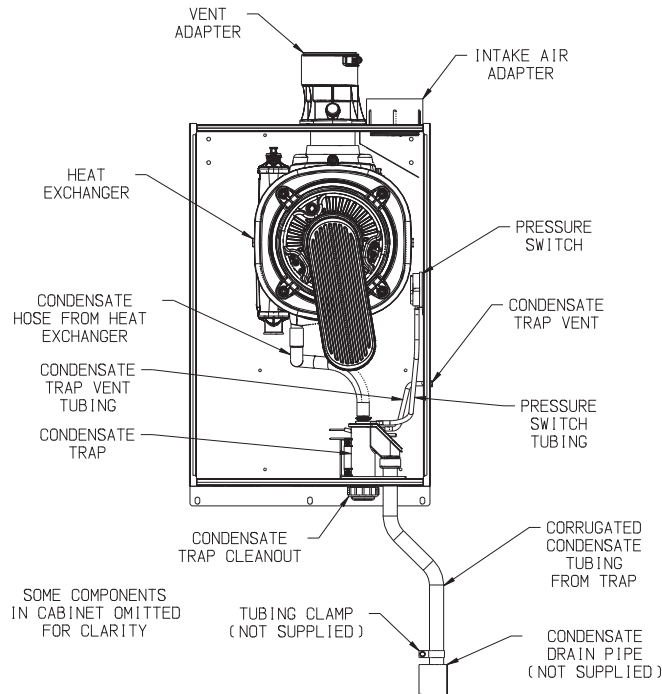

FIGURE 7.25: CONDENSATE PIPING ARRANGEMENT
All condensate which forms in the boiler or vent system passes through the heat exchanger and out of a bottom drain port which is connected to the condensate trap with a hose. This trap allows condensate to drain from the heat exchanger while retaining flue gases in the boiler. This trap is an integral part of the boiler but must be connected to a drain pipe as shown in Figure 7.25. A length of corrugated tubing is supplied with the boiler and is connected to the trap as shown in Figure 7.25. Note the following when disposing of the condensate:
1. If the corrugated condensate drain line must be extended, construct the extension from PVC or CPVC pipe. Insert the hose provided with the boiler into the end of the extension as shown in Figure 7.25.
6. Do not attempt to move the trap from the location shown in Figure 7.25. Do not attempt to substitute another trap for the one provided with the boiler.
7. The vent shown in Figure 7.25 must be left open for the trap to work properly.